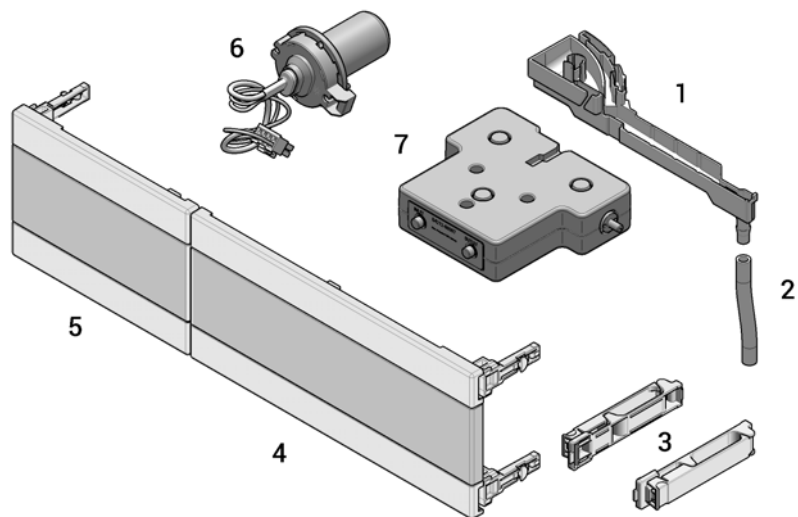

Figure 51 Overview of maintenance parts
5063-6527 	Tubing, Silicon Rubber, 1.2 m, ID/OD 6/9 mm see item 4 in <a href="#">Figure 51</a> on page 178
5043-1013 	Tubing Clip IF-II see item 7 in <a href="#">Figure 51</a> on page 178